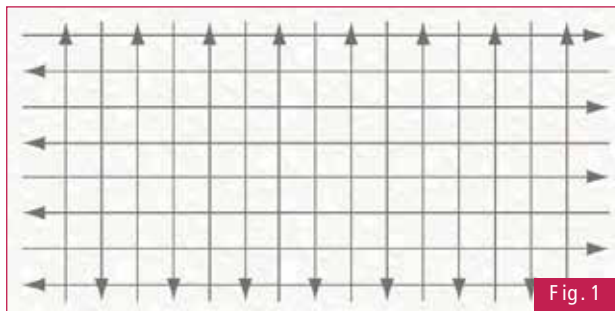

Fig. 1
Do NOT use any jigsaws or any mason's hand-saw when preparing a hob cutout in a HI-MACS® counter top. Machine the cutout using a CNC router or a hand router with a straight cutter and sleeve guide and a template according to the hob which needs to be installed. **Fig. 1**
When starting with the sanding process using the manual method, follow the direction < West - East > and then changing into < South - North > direction. **Fig.1**
- Use a WHITE HI-MACS® adhesive and place an adhesive bed around the plastic part as per figure 1.